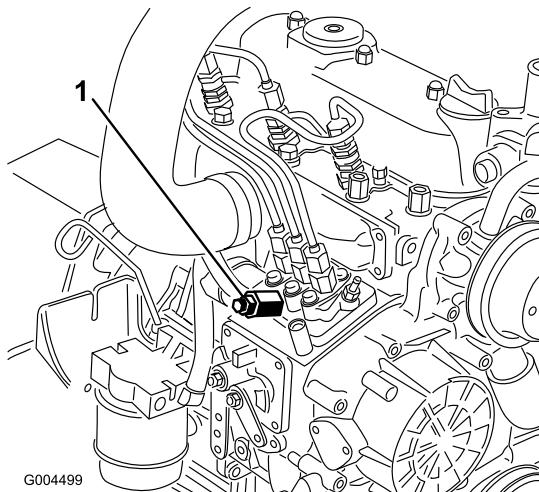

Figure 63
3. Place a rag under the air bleed screw on the fuel injection pump and open it (Figure 63).